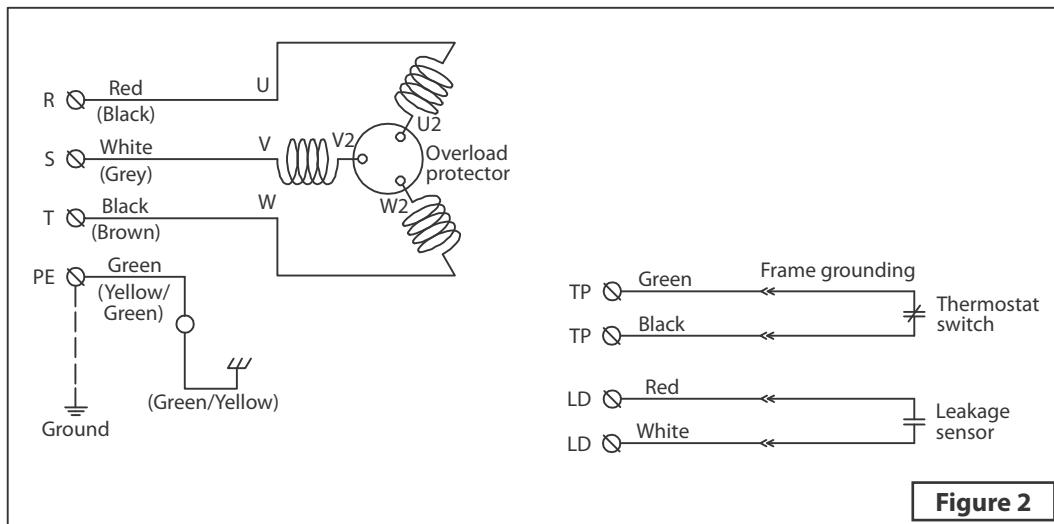

Figure 2
- a) Wire as indicated for the appropriate start system as shown in Figure 2.